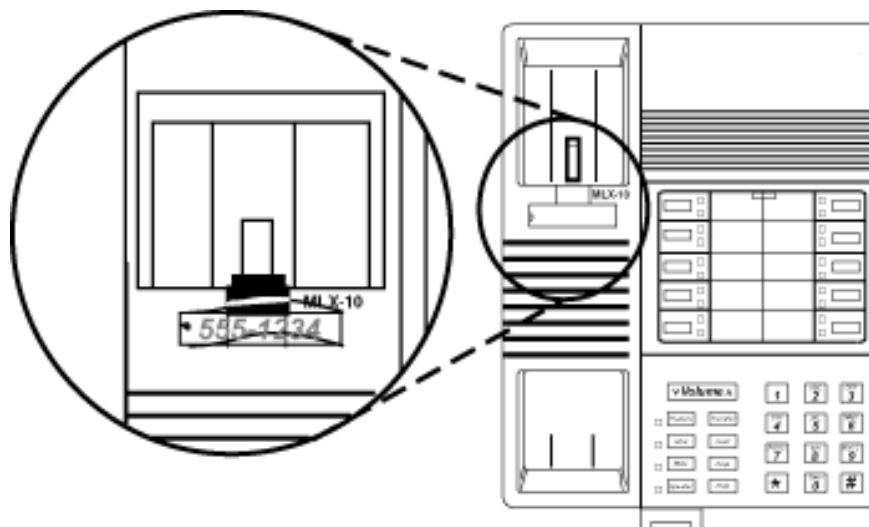

Figure 3-7. Replacing the Extension Label
1. Insert one end into the slot and snap the other end into place. See Figure 3-7.